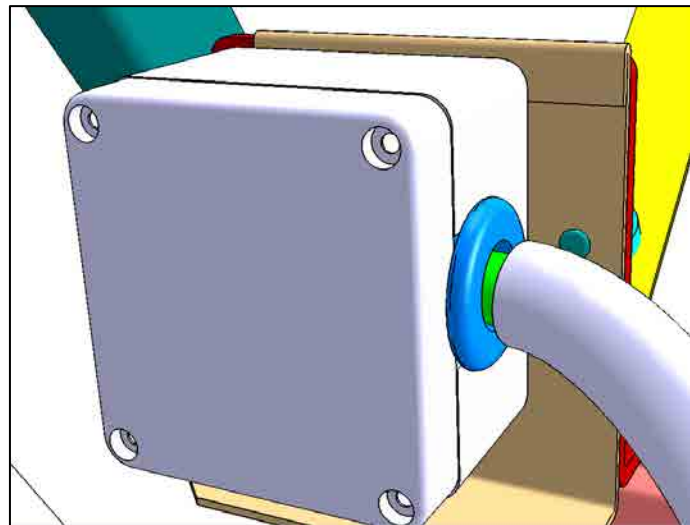

Figure 9
25. Liberally coat nut, terminal and threaded booster block stud with "Colorguard" compound. (Fig. 9)